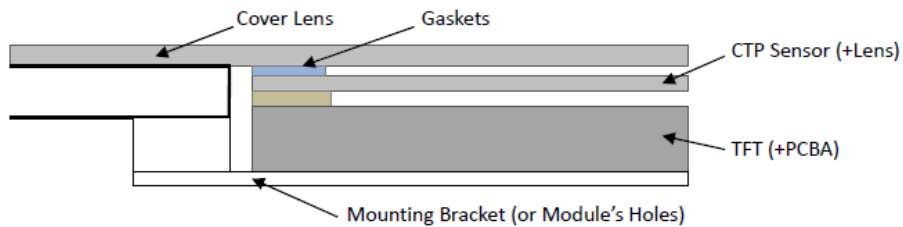

Figure 3
10.3 Additional Cover Lens Mounting (Figure 3)
10.3 覆加盖板（附图3）